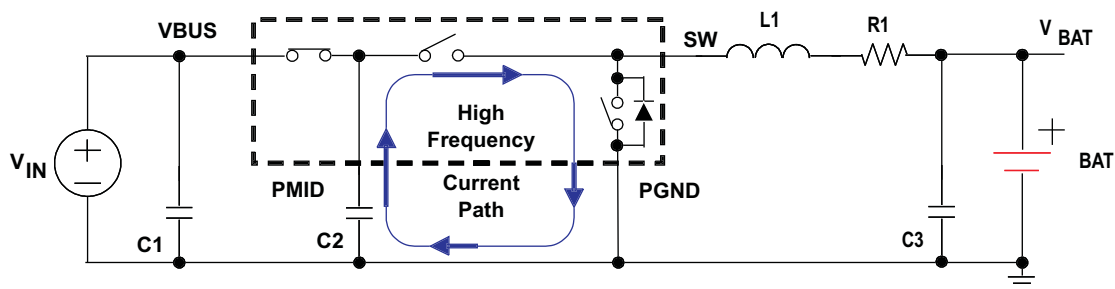
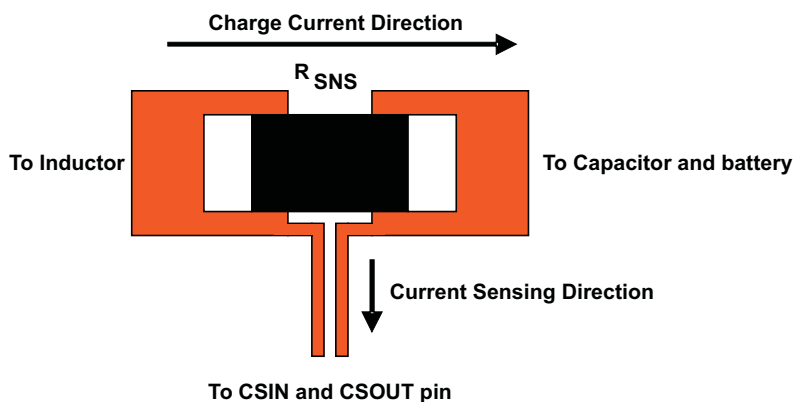

Figure 37. High Frequency Current Path
Figure 38. Sensing Resistor PCB Layout
- To obtain optimal performance, the power input capacitors, connected from input to PGND, should be placed as close as possible to the bq24150/1. The output inductor should be placed close to the IC and the output capacitor connected between the inductor and PGND of the IC. The intent is to minimize the current path loop area from the SW pin through the LC filter and back to the PGND pin. To prevent high frequency oscillation problems, proper layout to minimize high frequency current path loop is critical (see Figure 37). The sense resistor should be adjacent to the junction of the inductor and output capacitor. Route the sense leads connected across the RSNS back to the IC, close to each other (minimize loop area) or on top of each other on adjacent layers (do not route the sense leads through a high-current path, see Figure 38).